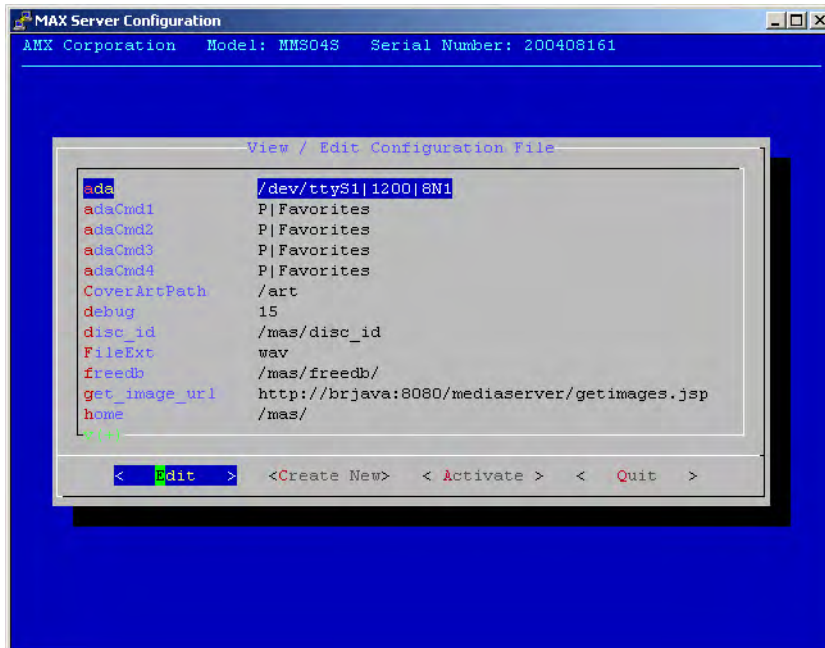

**FIG. 31** Date, Time, Locale - New Date and Time settings
- Click **OK** to proceed to the final screen which displays the new Date and Time settings (FIG. 31). Click **OK** to save your changes and return to the MAX Admin Menu.